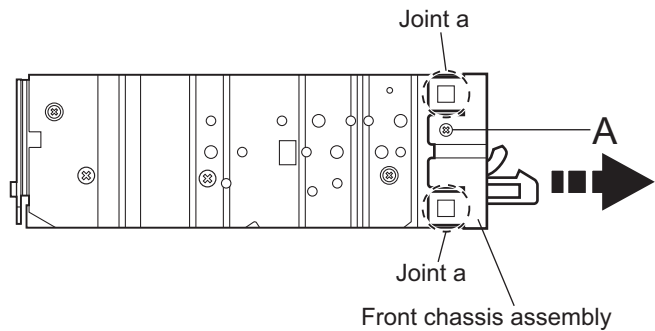

Fig.2
2.1.2 Removing the front chassis assembly (See Figs.2 to 4)